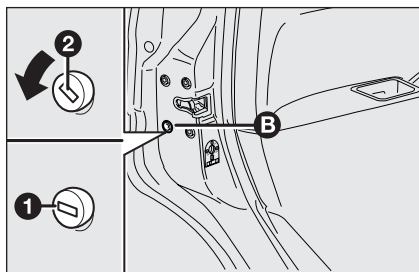

fig. 1
- insert the ignition key in lock **B**-fig. 1